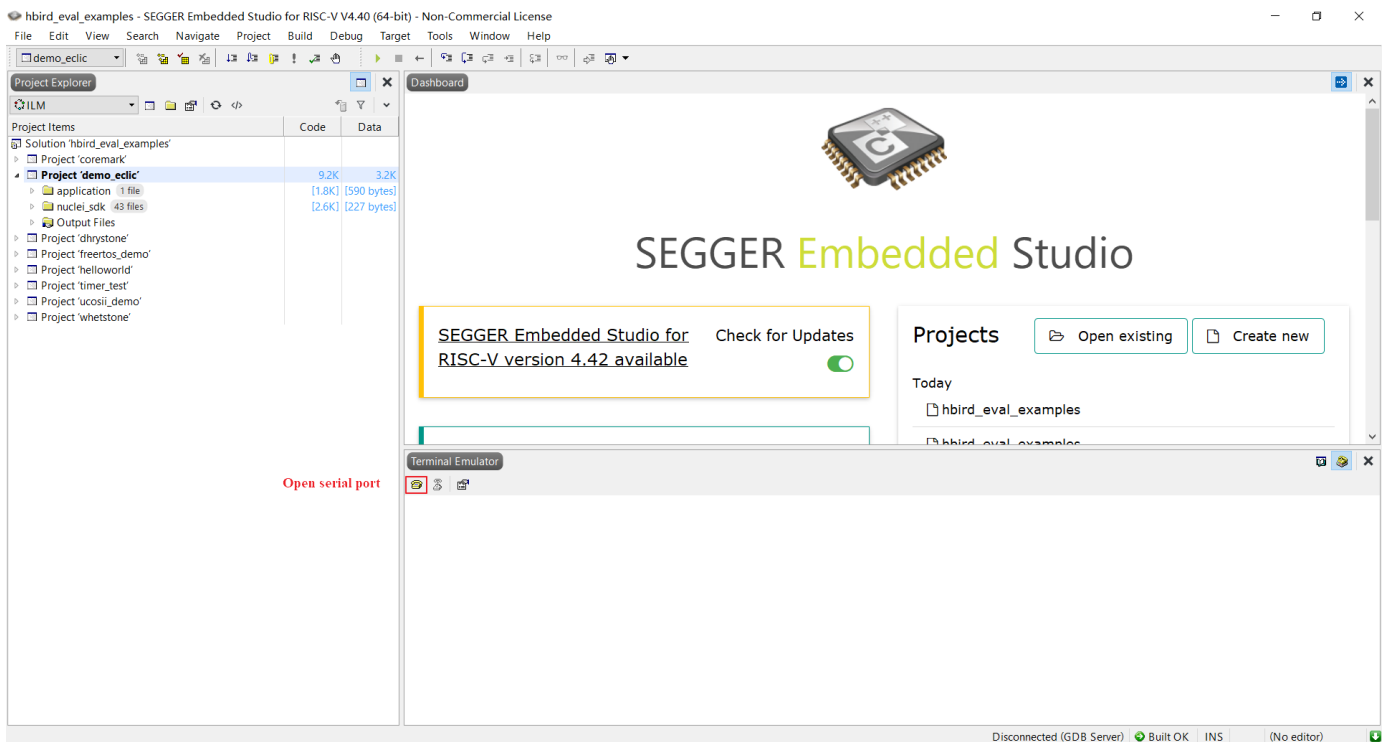

Figure 4-11 Open Serial Port
- As shown in Figure 4-11, click the “old type phone” icon to connect the Serial Port.